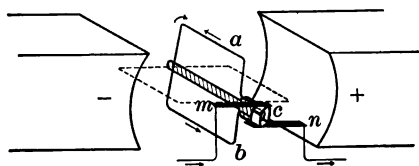

FIG. 216
**336. The Motor explained.** — Fig. 216 may serve to explain the action of the motor. In the figure, *ab* is the armature, which is to revolve between the poles